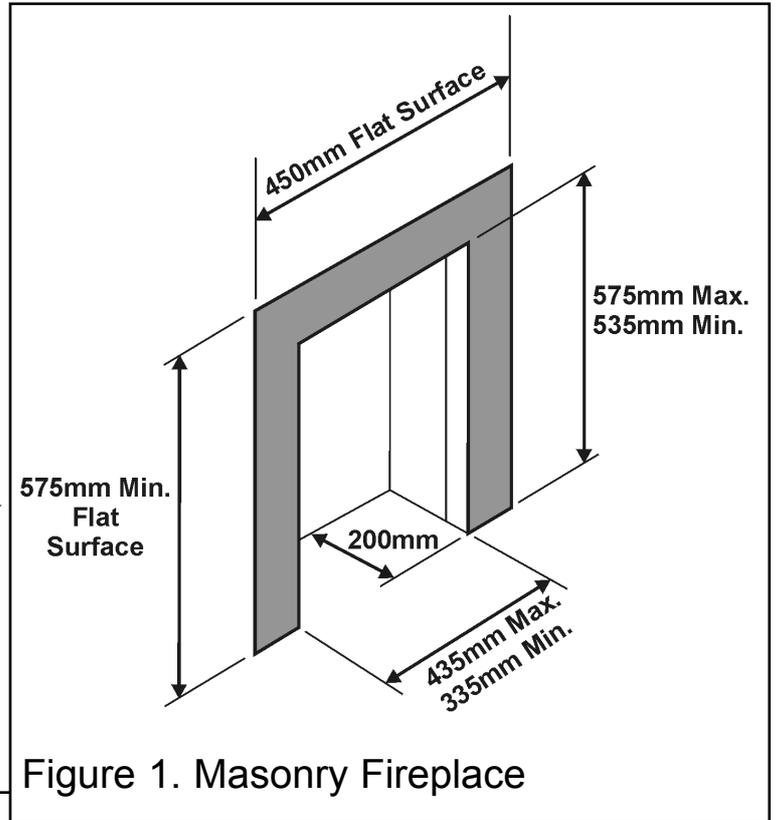

Figure 1. Masonry Fireplace
3.9.1 A masonry chimney with a minimum diameter of 175mm (7") free from any obstruction, and with any damper or restrictor plate in the chimney removed or secured, and having a minimum effective flue height of 3m (10ft). Note the relevant flat surface area requirement – See figure 1. A masonry chimney having a correctly installed flue liner to BS715 and with a minimum flue diameter of 125mm is also acceptable. Chair brick removal may not be required providing at least 50mm clearance is available from the flue outlet to any fireplace component. The appliance is designed to cater for low lintel installations (min height 505mm) providing a minimum distance of 25mm is maintained between the lintel and the front face of the fireplace (i.e. 25mm rebated fire surround).